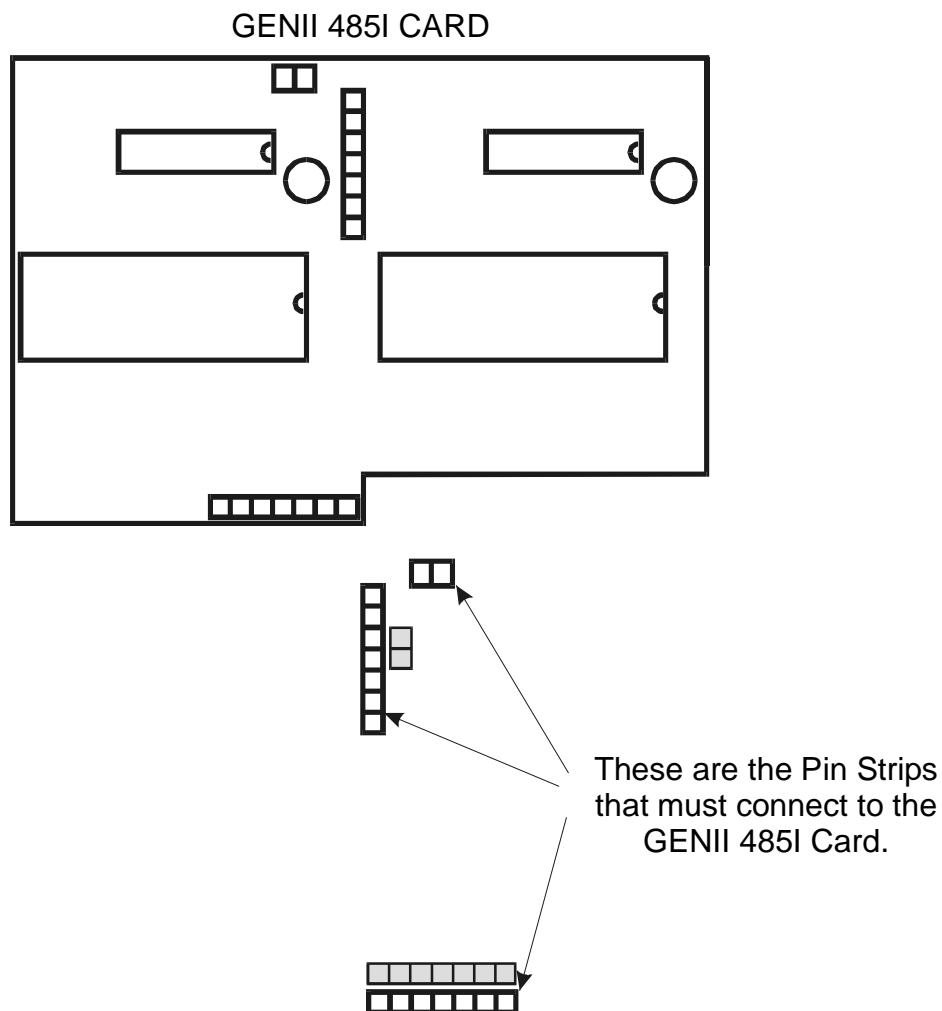

Figure A-10. GENII 485I Isolated RS485 Comms Card.
**A-4.2.5. GENII 485I Isolated RS485 Comms Card.** The GENII 485I Isolated RS485 Comms card can only be used on Genesis II Digital Controllers. It provides galvanic isolation of the data lines of both the Net Comms and the Global Points and the screen connection at Terminal 91. To fit a GENII 485I card (See Figure A-10):